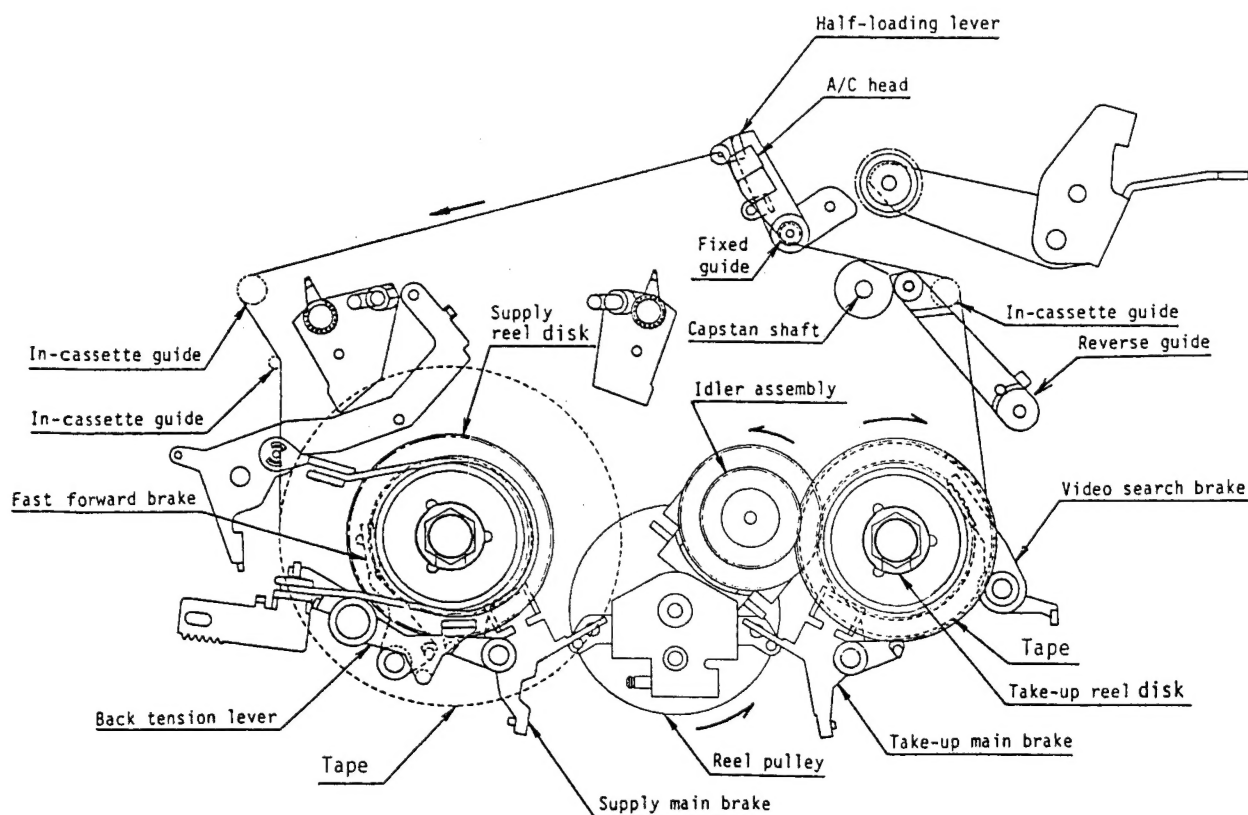

Figure 1-6. Cassette Tape Take-up Mechanism 2 (Upper stage)
- 7) In fast forward and rewind operations, a back tension is provided by the fast forward brake and video search brakes. (Figures 1-6. and 1-7.)